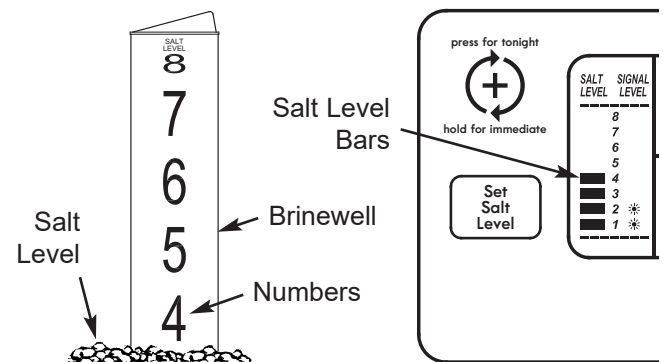

FIG. 25
2. The salt level scale, on the brinewell inside the tank, has numbers from 0 to 8 (see Fig. 25). Observe the highest number the leveled salt is at, or closest to.
3. Press the SET SALT LEVEL button as many times as necessary to make the salt level bars in the display (see Fig. 25) match the number on the brinewell. At level 2 or below, the Low Salt Indicator will flash (See Page 12).